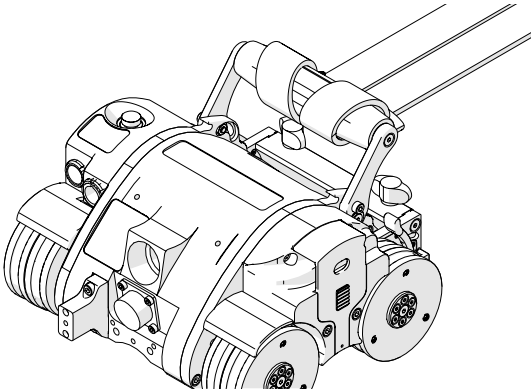
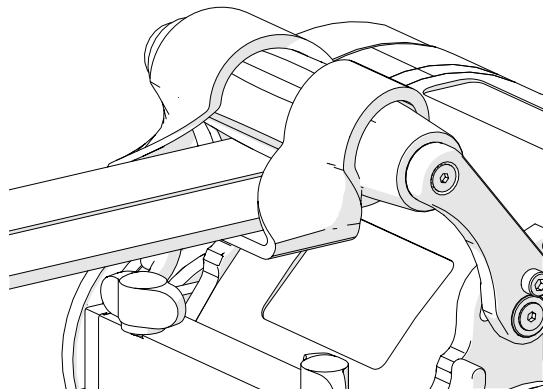

Fig. 79 - Attach the lifting sling with a choker hold
Fig. 80 - Attach the lifting sling with a choker hold
1. Wrap the supplied lifting sling around the handle of the **SKOOT** using a choker hold knot (Fig. 79) and (Fig. 80).